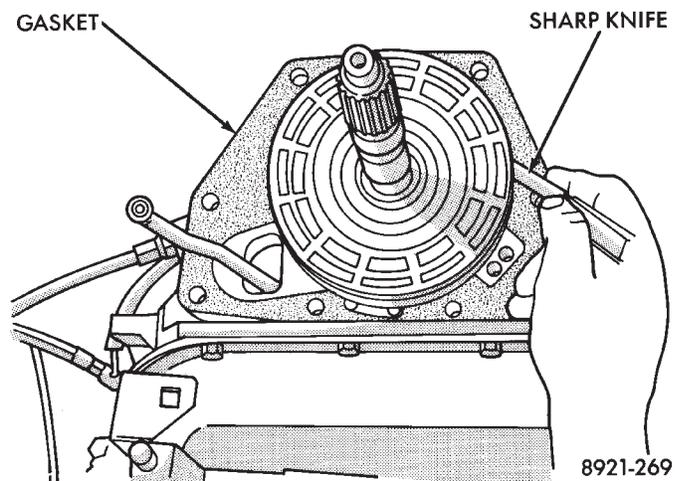

Fig. 59 Trimming Overdrive Case Gasket
(1) Be sure overdrive unit Alignment Tool 6227-2 is fully seated before moving unit. If tool is not seated and gear splines rotate out of alignment, overdrive unit will have to be disassembled in order to realign splines.
(2) If overdrive piston retainer was not removed during service and original case gasket is no longer reusable, prepare new gasket by trimming it.
(3) Cut out old case gasket around piston retainer with razor knife (Fig. 59).
(4) Use old gasket as template and trim new gasket to fit.
(5) Position new gasket over piston retainer and on transmission case. Use petroleum jelly to hold gasket in place if necessary. Do not use any type of sealer to secure gasket. Use petroleum jelly only.